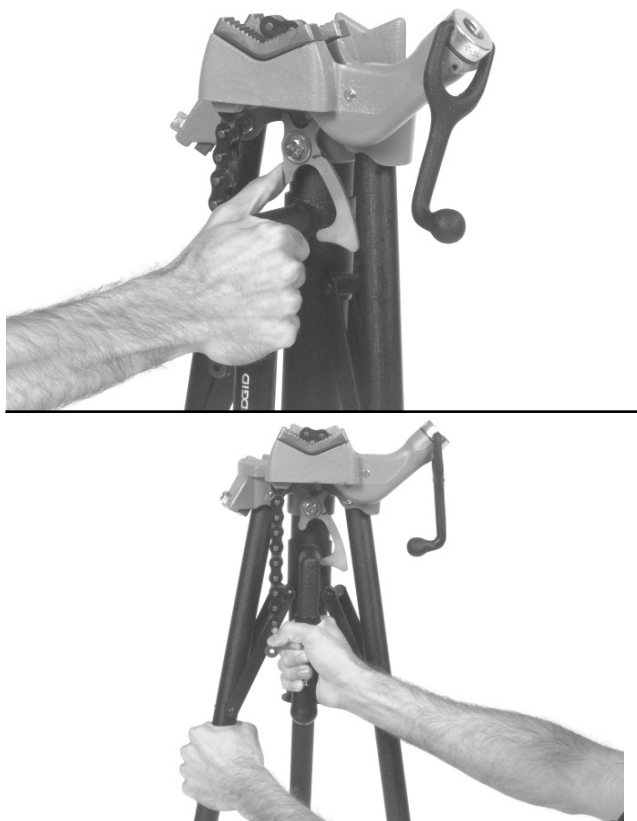

Figure 1 – Opening Vise Legs
2. Using thumb, rotate spring-loaded automatic-locking latch so carrying handle is free to move down center tube. Simultaneously, push down on horizontal portion of handle with one hand and pull on one of the three legs to facilitate opening of legs (*Figure 1*).